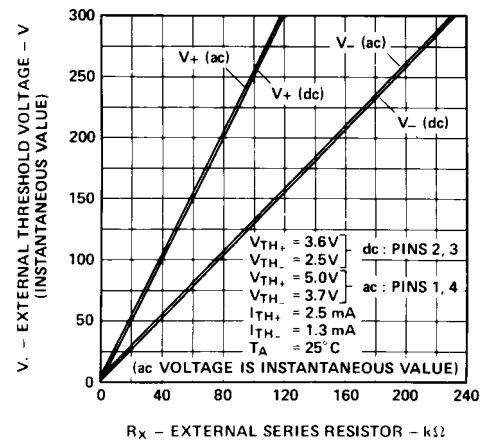
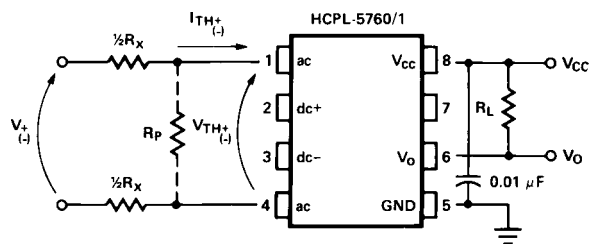

Figure 10. Typical External Threshold Characteristic, V_{\pm} vs. R_x .
Figure 11. External Threshold Voltage Level Selection.
The HCPL-5760, HCPL-5761, or 5962-89477 optocoupler has internal temperature compensated, predictable voltage and current threshold points which allow selection of an external resistor, R_x , to determine larger external threshold voltage levels. For a desired external threshold voltage, V_{\pm} , a corresponding typical value of R_x can be obtained from Figure 10. Specific calculation of R_x can be obtained from Equation (1) of Figure 11. Specification of both V_+ and V_- voltage threshold levels simultaneously can be obtained by the use of R_x and R_p as shown in Figure 11 and determined by Equations (2) and (3).